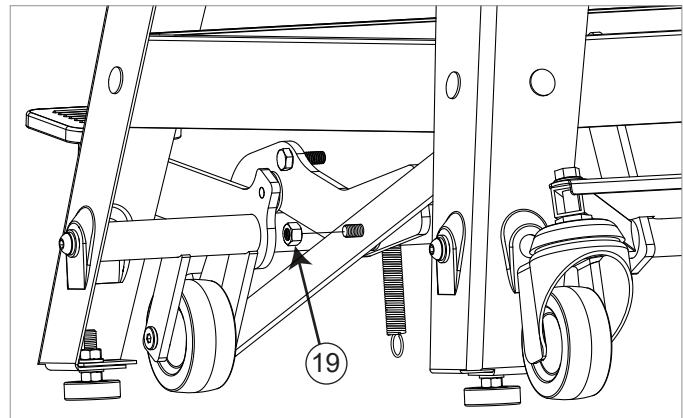

Fig. 15
15. Locate the M8 nylon hex nut and thread it onto the release lever locking screw to hold the screw in place as shown in Fig. 15. Fully tighten the nut with a 13 mm wrench.